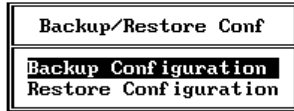

Figure 3-13. Backup/Restore Conf Menu
3. The Backup/Restore Conf (Configuration) menu appears (Figure 3-13).